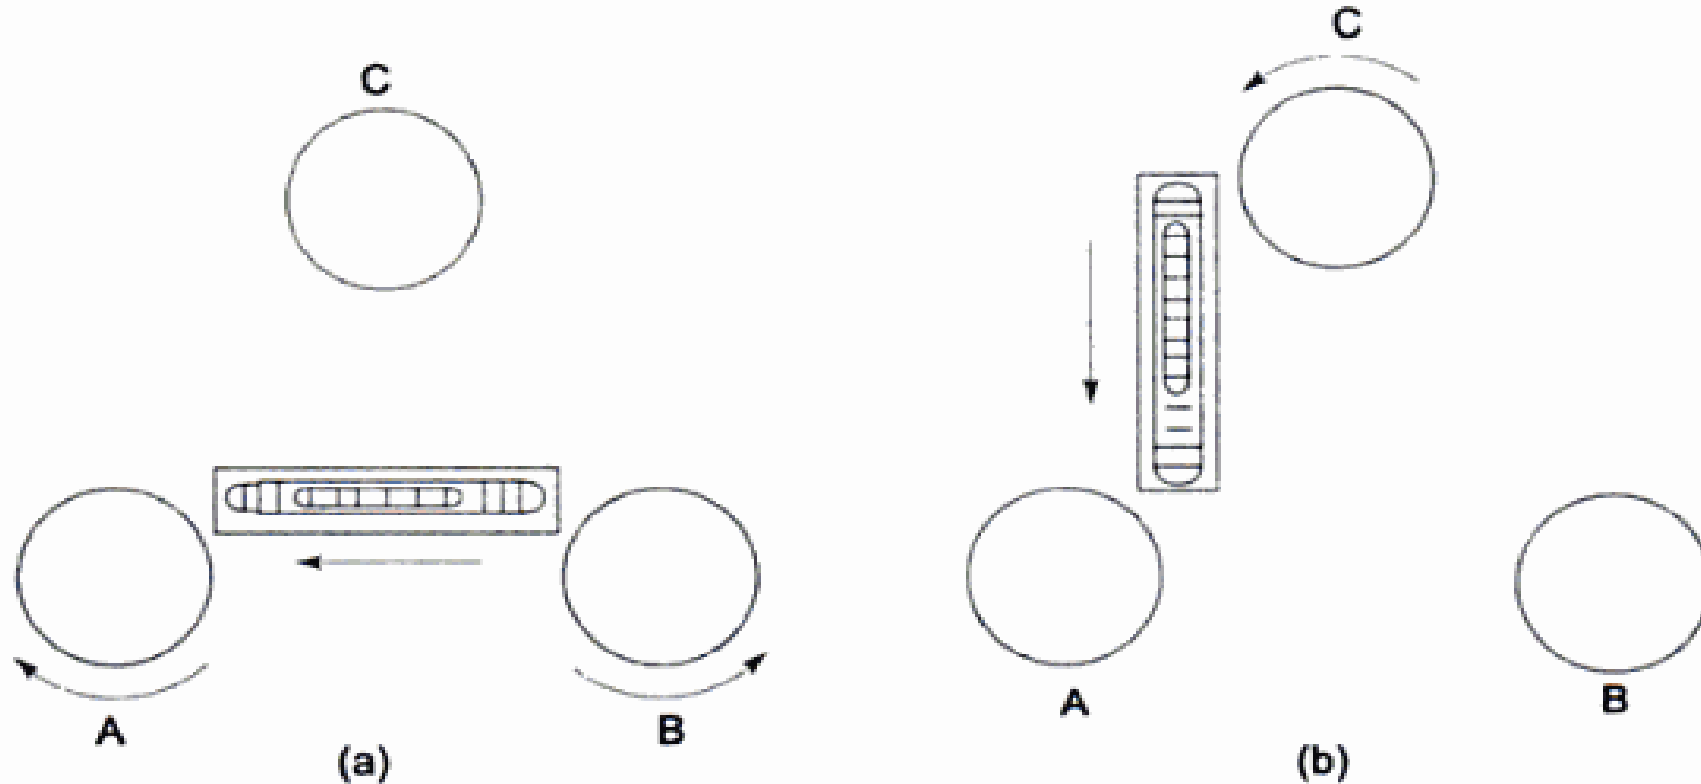

Fig. 4.4 Levelling with three foot screws
In the case of a three screw levelling head, the other plate level will then be parallel to the line joining the third foot screw and the mid-point of the line joining the first two foot screws, as shown in Fig. 4.4.
2. Bring the bubble of the longer plate level to the centre of its run by moving the two foot screws, say A and B, uniformly either inwards or outwards (Fig. 4.4(a)). It may be noted that the bubble always moves in the direction of the left thumb as the surveyor turns the screw.
3. Move the third foot screw C so that the bubble in the other plate level is centred (Fig. 4.4(b)).